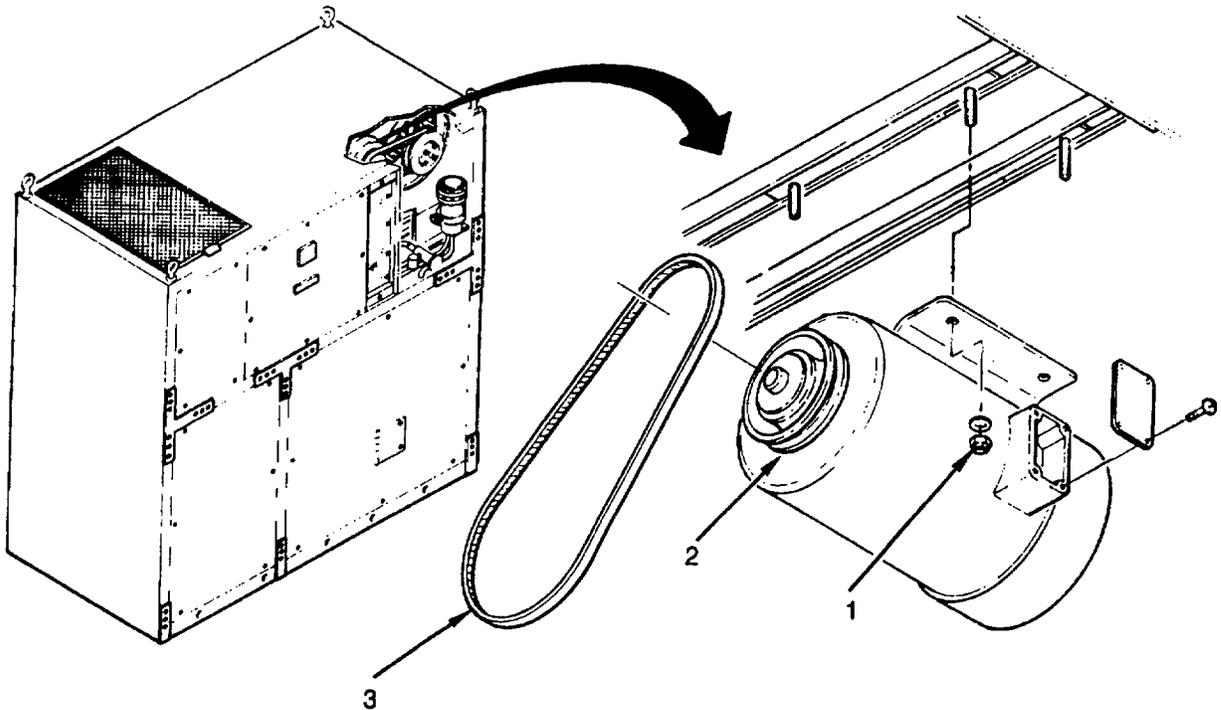

Figure 4-70. Fan Belt (Evaporator Motor And Housing Assembly)
1. Check that belt is not cut, worn, frayed, or cracked. If belt is damaged, replace belt (see Figure 4-70).